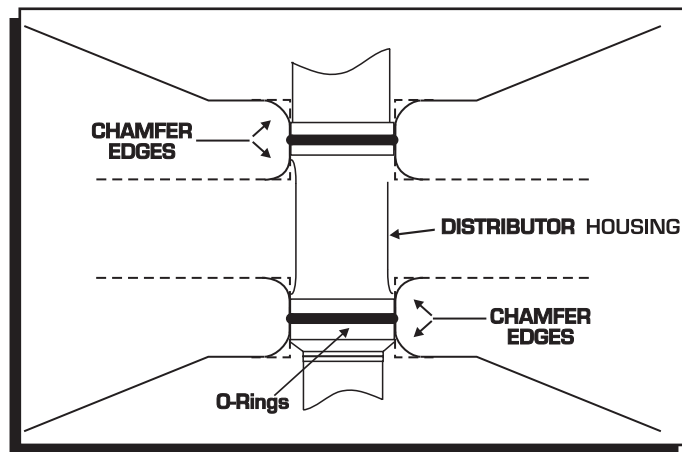

Figure 3 Modified Block for use with O-Rings.
2. Install the O-ring and apply a liberal amount of the supplied lubricant to the distributor gear. CHEVY: Install the gasket and apply a liberal amount of the supplied lubricant to the gear. (The supplied O-rings can only be used if the block has been modified as shown in Figure 3.)